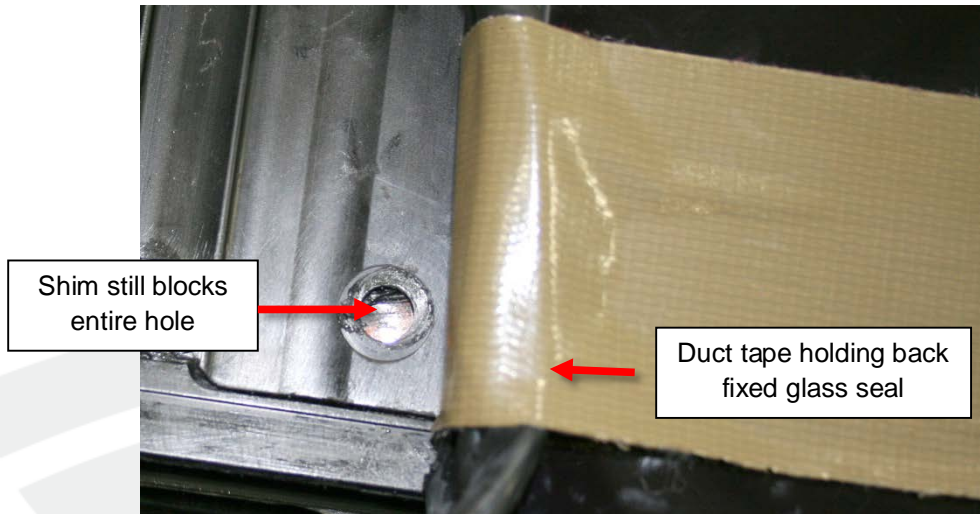

Figure 37
12. Peel back the fixed glass seal and secure it in place with duct tape. Ensure that the shim still blocks the entire hole for the front screw that secures the B-Pillar bracket, panoramic roof track, and B-Pillar crossmember (Figure 37).